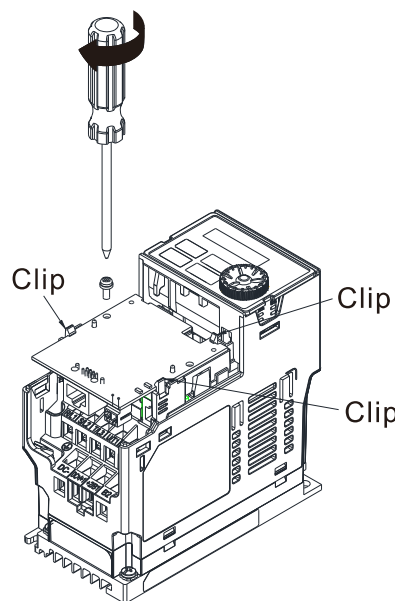

Figure 8-24
6. As shown in the Figure 8-24, make sure that three clips are properly engage the adapter/option card and then fasten the screw [Suggested torque value: 4–6 kg-cm / (3.5–5.2 lb-in.) / (0.39–0.59 Nm)].